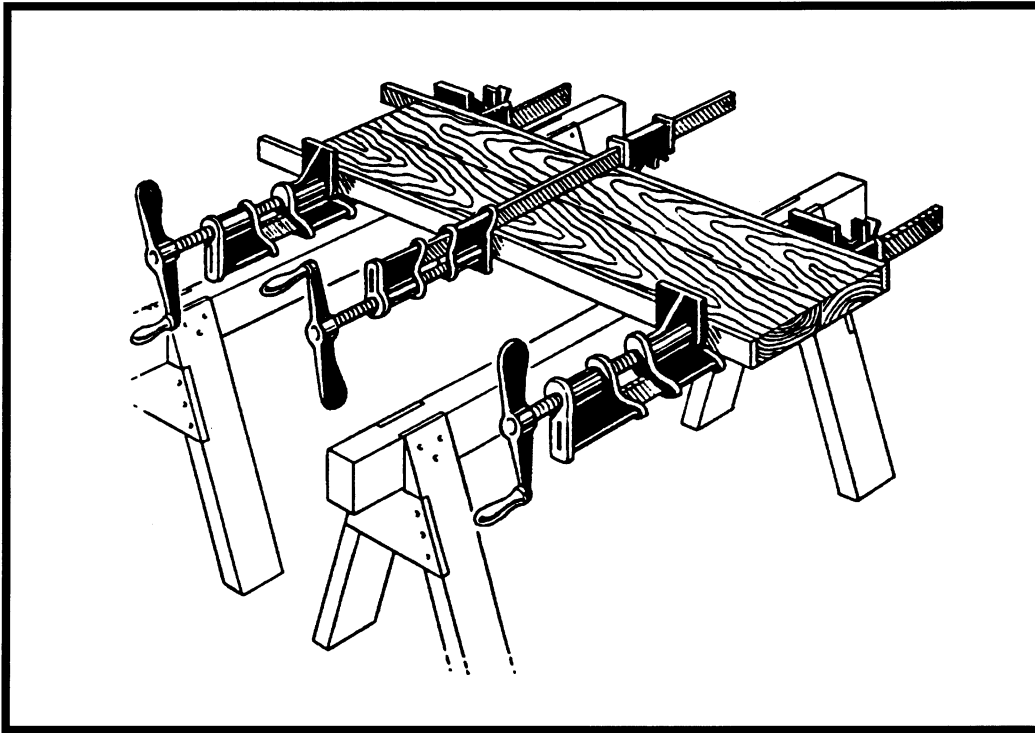

Figure 4.1
4.1 **Figure 4.1** shows two boards that have been glued and clamped together.